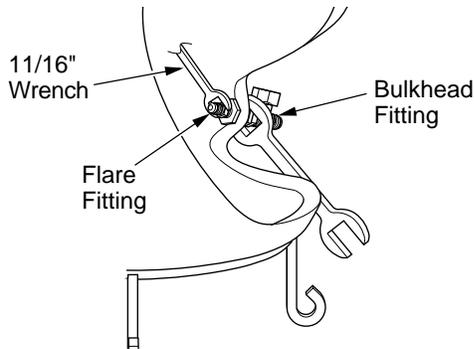

Figure 7 - Installing Manual Control Valve
3. Apply thread sealant to the 3/8" MPT of flare fitting. With an 11/16" wrench, thread pipe thread end of flare fitting into rear bulkhead fitting from inside chimenea (see Figure 7, page 7). Be sure to use a wrench on the 1 1/8" outside hex nut of bulkhead fitting to avoid spinning the fitting or damaging clay base.